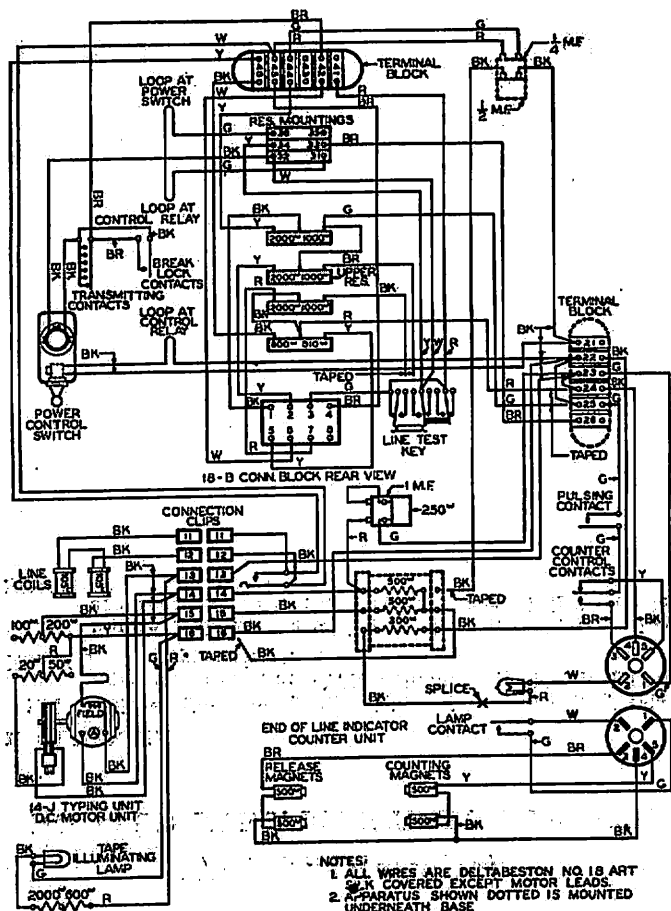

Figure 1
- 1.02 Figure 1 shows the wiring of these machines as they are received from the factory. Figure 1 is based on SD-63873-81, Issue 3-D.